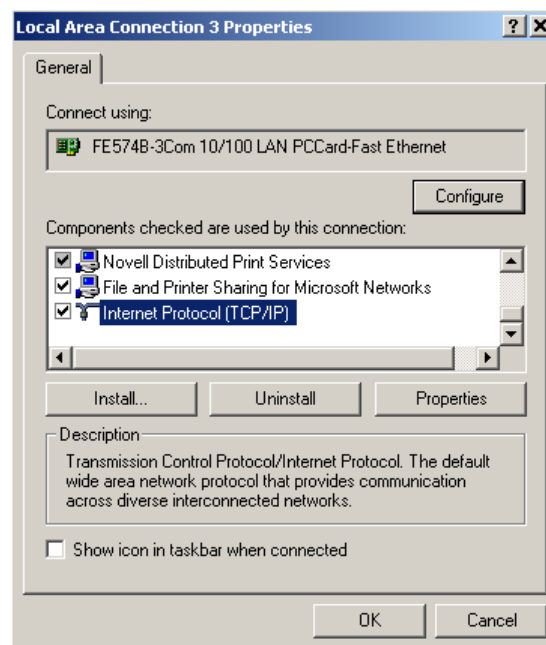

Figure 4.34b: Selecting Internet Protocol
- d. Click on the properties button and the window in Figure 4.34b will appear.
- f. Click on OK to enter the information. After the window closes, Figure 4.34b will appear. Click on OK to close this window. You may have to re-start your computer to have your new settings take affect.